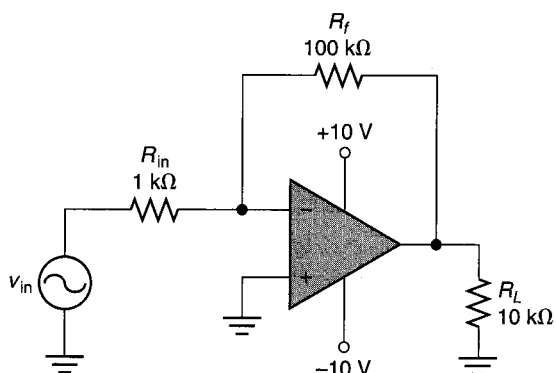

FIGURE 15.67
33. The circuit shown in Figure 15.67 has a measured  $f_{C2}$  of 250 kHz. What is the value of  $f_{unity}$  for the op-amp?
41. Calculate the values of  $A_{CL}$ ,  $Z_{in(f)}$ , and  $Z_{out(f)}$  for the circuit shown in Figure 15.67. Assume that the op-amp has the following ratings:  $A_{OL} = 200,000$ ,  $Z_{in} = 5 \text{ M}\Omega$ , and  $Z_{out} = 100 \Omega$ .